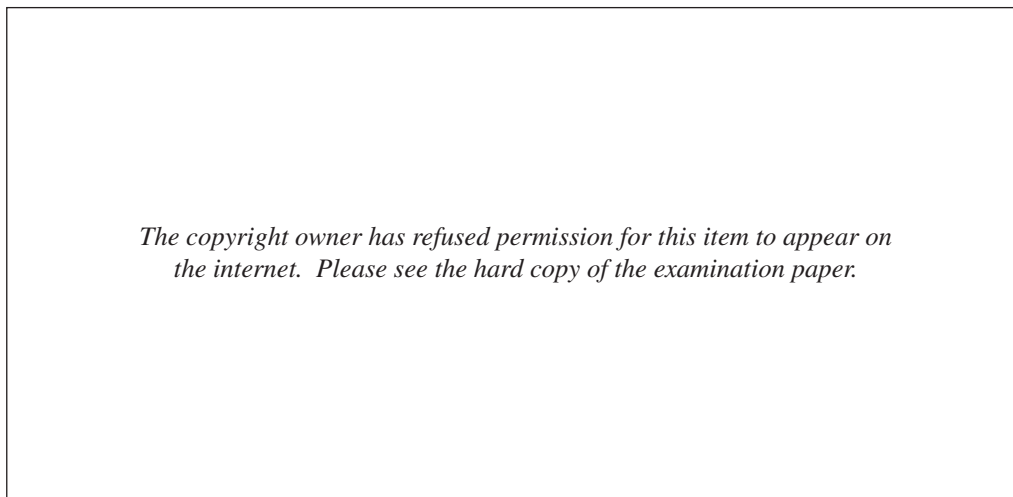

Figure 1
- (a) Figure 1 shows an electronic component being tested with the use of a meter.
- (iii) Describe the function of part *B* shown in Figure 1, and the precautions that need to be taken to protect the component under operational conditions. **3**